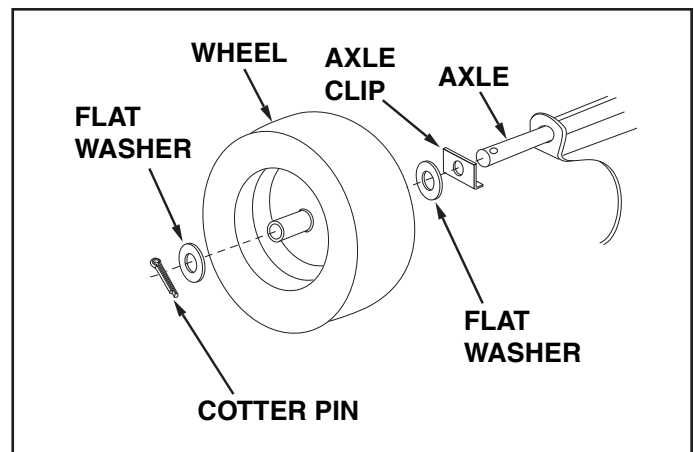

FIGURE 12
17. Assemble an axle clip, flat washer, a wheel with the valve stem facing out, and another flat washer onto the axle as shown in figure 12. Secure the wheel on the axle with a cotter pin, spreading the ends. Repeat on other end of axle.